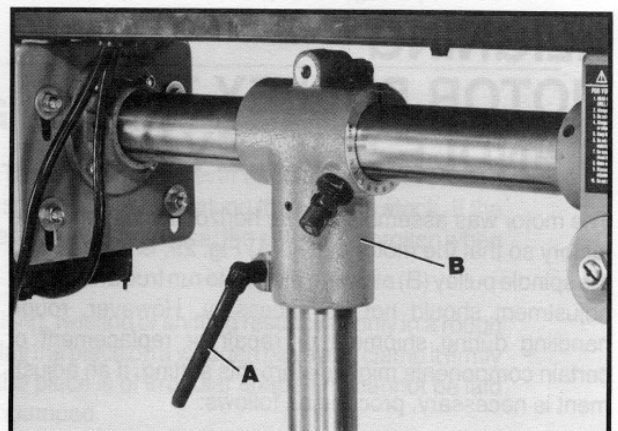

Fig. 25
The head can be rotated 360 degrees around the vertical column by loosening the vertical column clamp (A) Fig. 25, and rotating the T-bracket (B) to the desired position. Then tighten the column clamp (A).